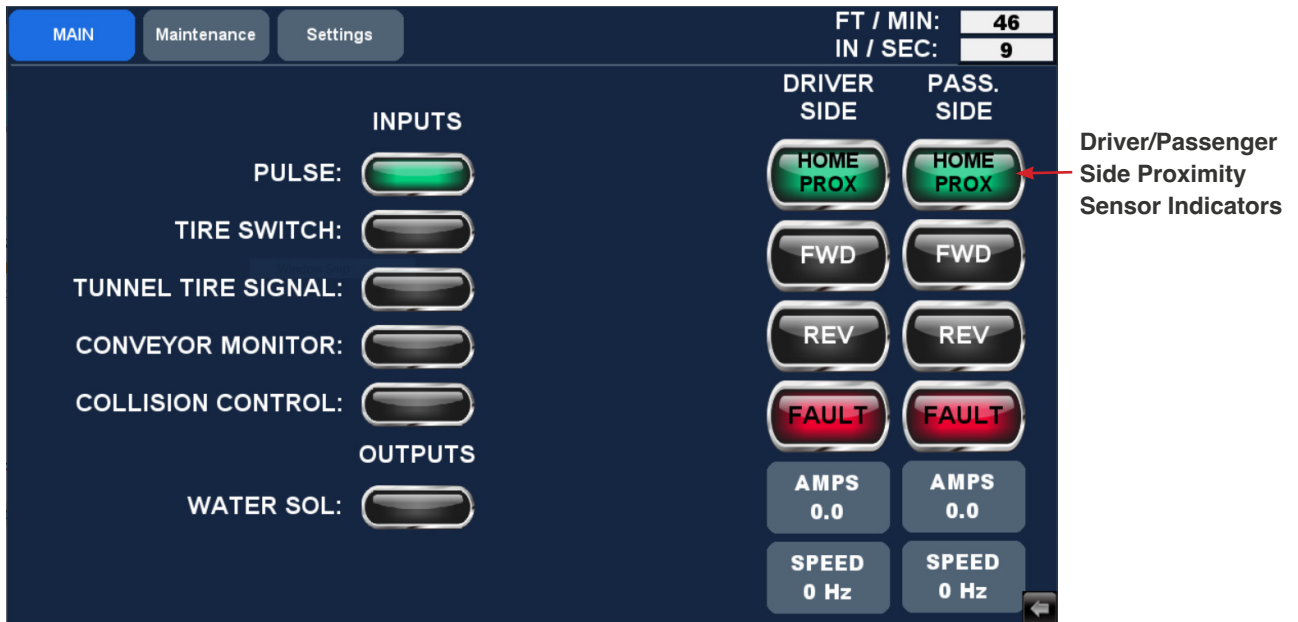

Fig. 4.3 - 1 - Main screen proximity sensor indicators
3. Navigate to the **Main** screen and confirm the **DRIVER SIDE 'HOME PROX'** button is green. (Fig. 4.3 - 1).
4. Repeat for the passenger's side and confirm the **PASS. SIDE 'HOME PROX'** button is green (Fig. 4.3 - 1). **Do not proceed until this is correct.**